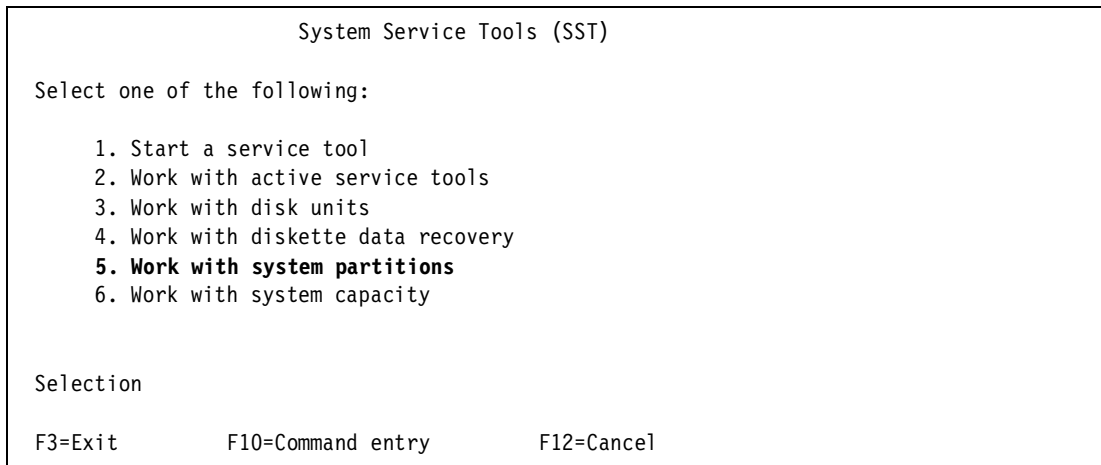

Figure 11-4 System Service Tools
1. Start System Service Tools (STRSST) from the primary partition. This requires *SERVICE authority. Select option 5 (Work with system partitions) as shown in Figure 11-4.